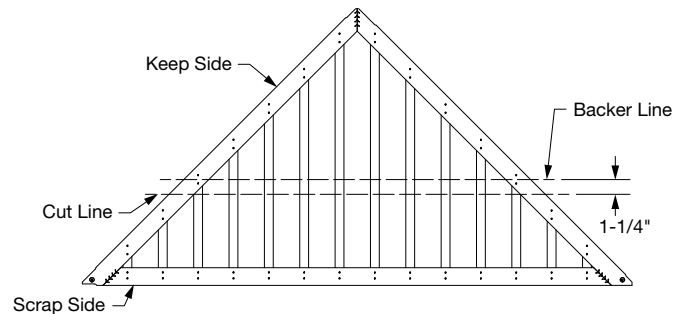

Fig 63
1. Measure 1-1/4" from the **CUT LINE** towards the keep side of the panel; this is the **BACKER LINE** (*Fig 63*).